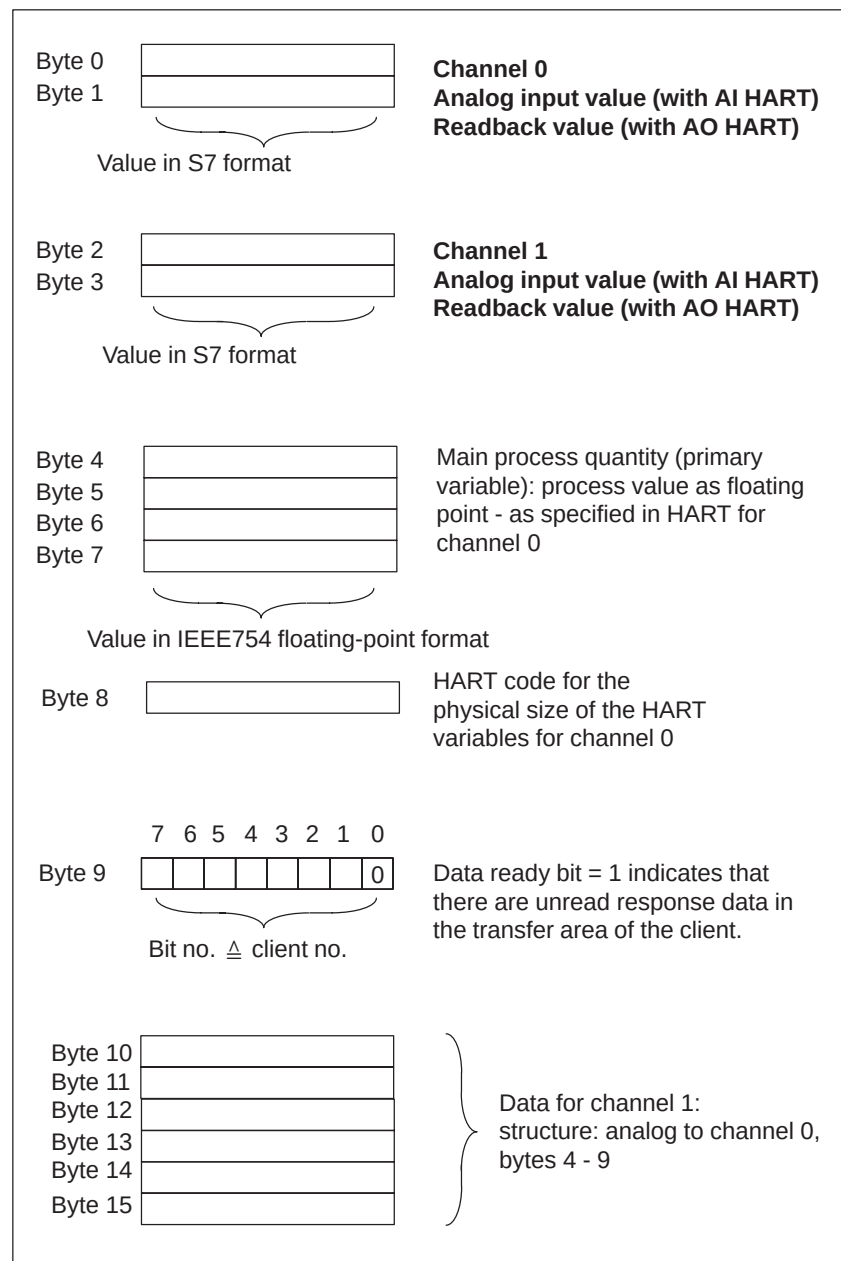

Fig. 4-20 Input user data area of the HART analog modules
- The transfer area of each client is allocated a data ready bit which is set when new data can be fetched (see Figure 4-20).
- Alternatively you can evaluate the "data ready" in the user data area: the transfer area of each client is allocated a bit in the user data area which is set when new data arrive (see Figure 4-20).